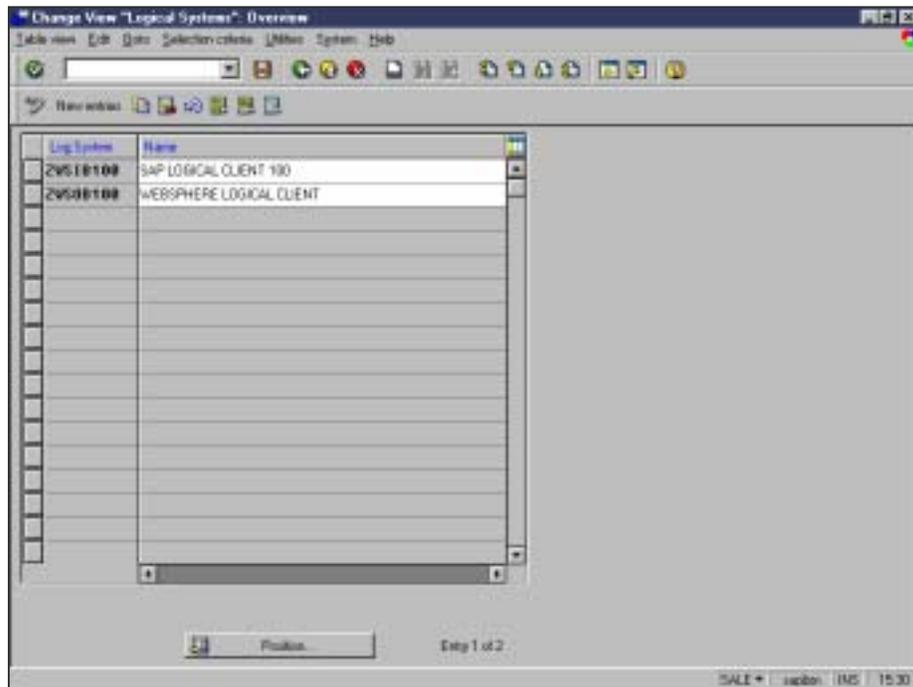

Figure 49: Defining logical systems for SAP and WebSphere Commerce
6. Click on **New entries**. Enter two logical systems, one for SAP and another for WebSphere Commerce, as shown in Figure 49. Save the entries.